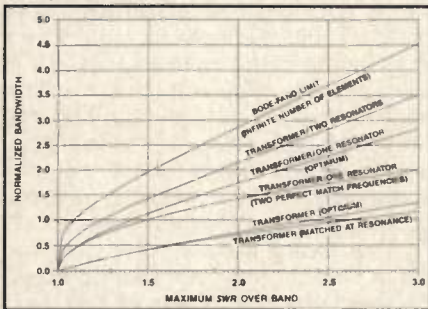

Figure 8. Normalized bandwidth versus maximum SWR over the band for the lossless matching network case.
Much has been reported regarding the design of optimum matching networks when the load is complex. In these analyses, the assumption has usually been that the matching network is made up of lossless elements. In order to compare the results of this investigation with the earlier results, it is necessary to set  $\delta=0$ . The comparison may be made by showing the relationship between the normalized bandwidth and  $S_M$ , the maximum SWR over the operating band (Figure 8); equations 6 and 8 provide the required formulas for the dipole matched at resonance and optimum transformer matching, respectively. For the case of transformer/resonator optimum bandwidth matching, from equation 23,
In addition to the relationships derived above, Figure 8 gives the Bode-Fano limiting case (1), which shows the maximum bandwidth theoretically attainable with an infinite number of elements in the matching network. For this case,
The cases of transformer and transformer/resonator matching for maximum bandwidth exactly coincide with Fano's (1) results for the equivalent situations; his results were achieved using a more general technique, which involved a graphical solution for the final result. Incidentally, the terminology of Fano is different than that used in this paper, but the necessary translations were made to prepare Figure 8.
For comparison, the case which shows how much additional bandwidth could be obtained if one more resonator were added to the matching network is also given in Figure 8. This result is derived from Fano (1) and Levy (2); the two-resonator topology is shown in Figure 9. It has been shown that the analytically derived matching network optimization is not always optimum (7, 8). Thus for the two resonator case, the curve shown may not be optimum. However, for the lossless matching network cases presented in this paper, it may be shown that the true optimum has indeed been found.